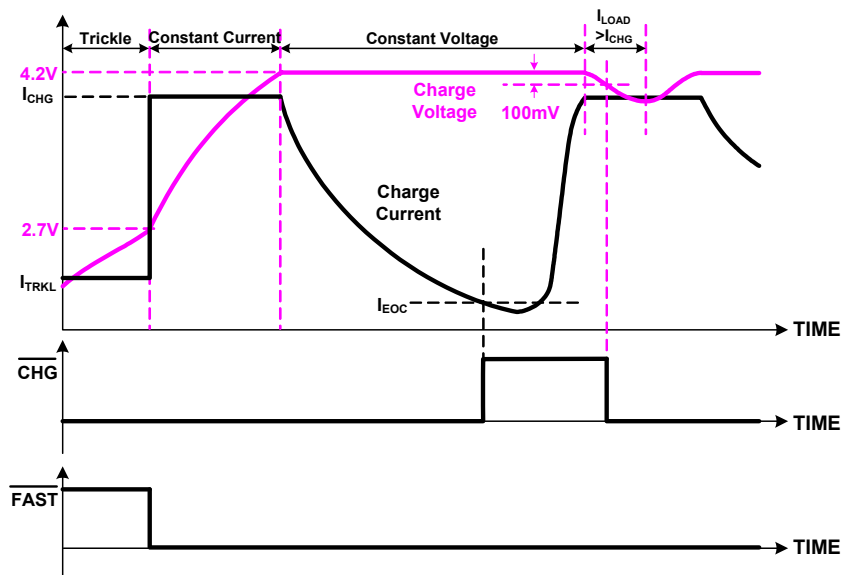

Figure 21. Charge Profile
The MC34673 uses the standard charge profile with trickle, constant-current (CC), and constant-voltage (CV) charge modes, as shown in Figure 21. Both the CC and the CV charge modes are also called fast-charge mode. When the input voltage rises above an internal power-on-reset threshold, the  $\overline{\text{PPR}}$  pin outputs a low voltage to indicate the power-supply presence. The charger starts with the trickle-charge mode until the battery voltage is above 2.7V. The  $\overline{\text{CHG}}$  pin outputs logic low voltage at the beginning of the trickle-charge mode. If the battery voltage is unable to rise due to a battery failure, charging will remain in the trickle-charge mode. When the battery voltage reaches the 2.7V threshold, the MC34673 softly changes to the CC-mode. The soft transition minimizes the input-voltage drop and reduces the requirement of the input decoupling capacitance. In the fast-charge mode, the  $\overline{\text{FAST}}$  pin outputs a low voltage. When the battery voltage reaches 4.2V, the MC34673 enters the CV-mode and regulates the output voltage at 4.2V. The charge current decreases gradually in the CV-mode. When the current drops to the EOC current threshold, the MC34673